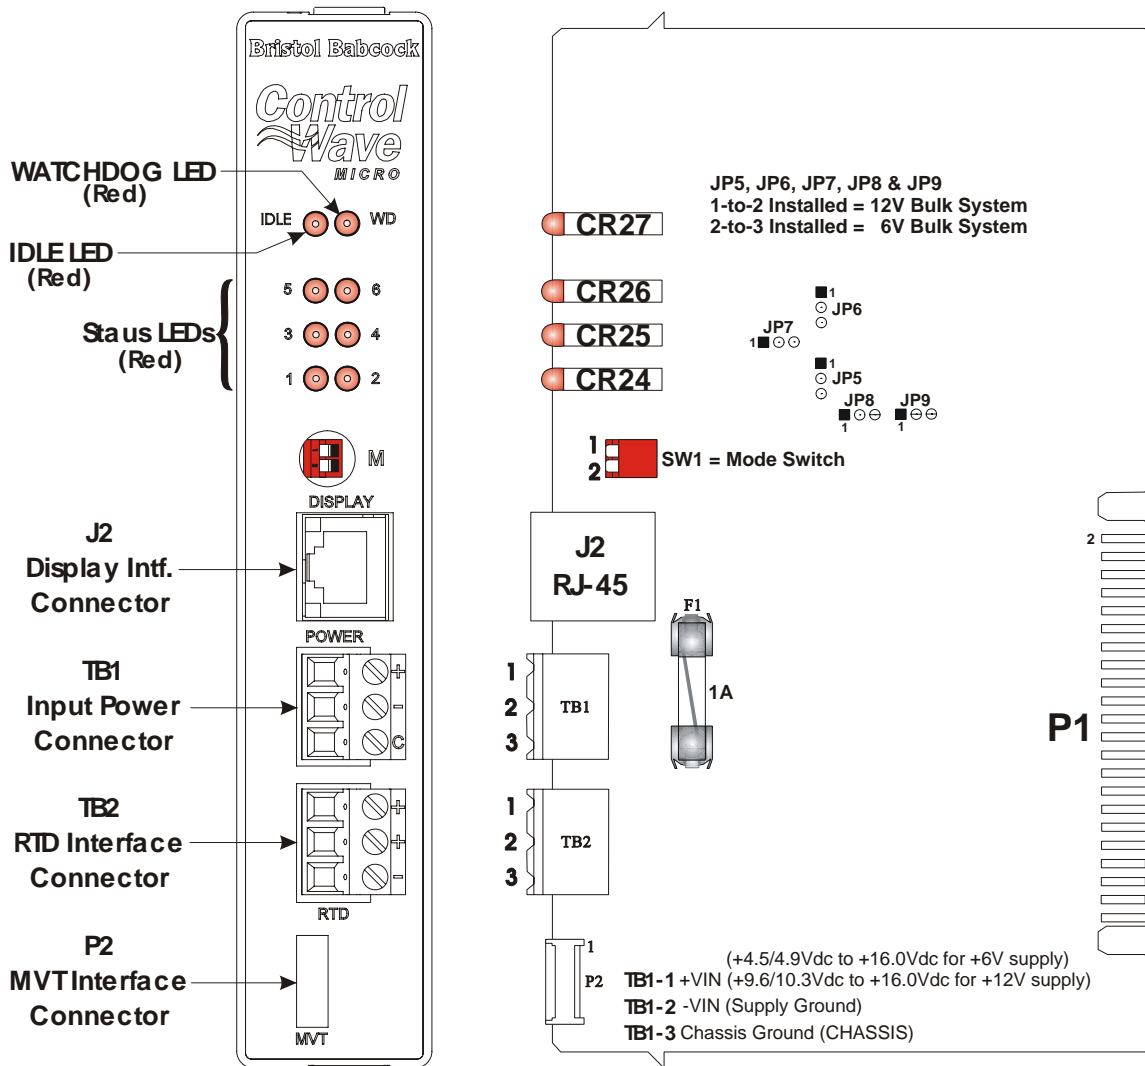

Figure 3-2 - System Controller Module's Component & LED Designations
One bulk power source can be connected to the SCM. SCM connector TB1 provides 3 input terminal connections for bulk power (see Figure 3-2):
* = see Figure 3-2